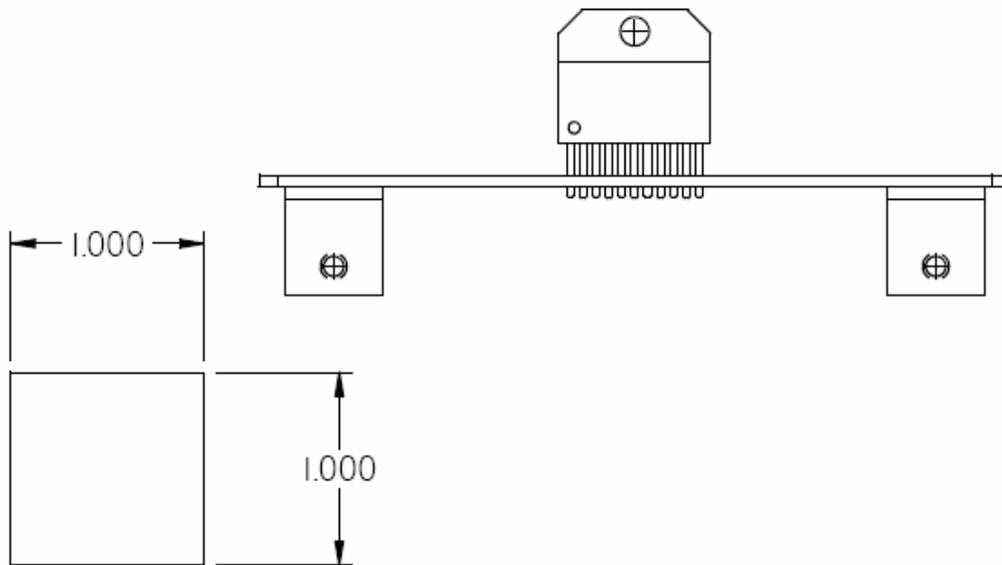

Figure 16-Template for checking mounting height of LM3886
2. With the brackets attached to the PC board, use the template in Figure 16 to check the LM3886 mounting height. If your printer has printed to the correct scale, the square in the figure should be very nearly 1" by 1". Print this page, and set the board and brackets against the page to check the LM3886's height above the board.